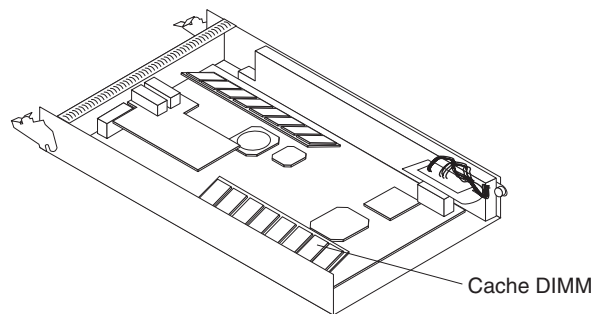

Figure 51. Removing the RAID cache DIMM
- a. Open the retaining clip on each end of the RAID cache DIMM connector. Figure 51 shows the cache DIMM that you will replace.
- a. Open the retaining clip on each end of the cache DIMM connector. Figure 51 on page 71 shows the cache DIMM that you will remove.